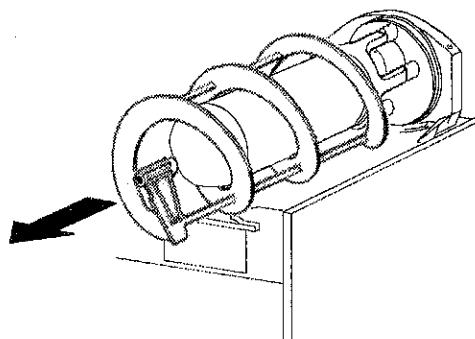
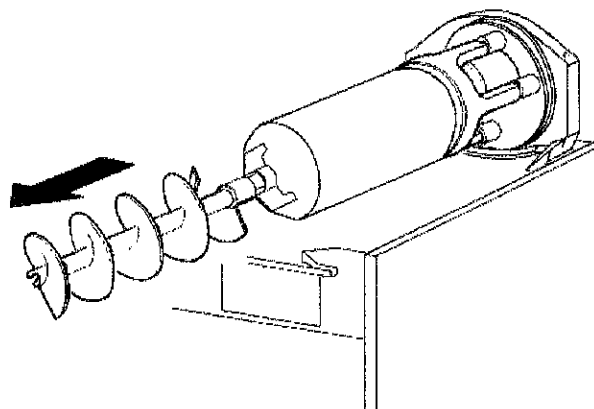

figure 7
figure 8
- 3 - Slide the outer spiral out (see figure 7) and then the inside auger. Frequently remove the rear seal by squeezing it to break the suction grip (see figure 8).